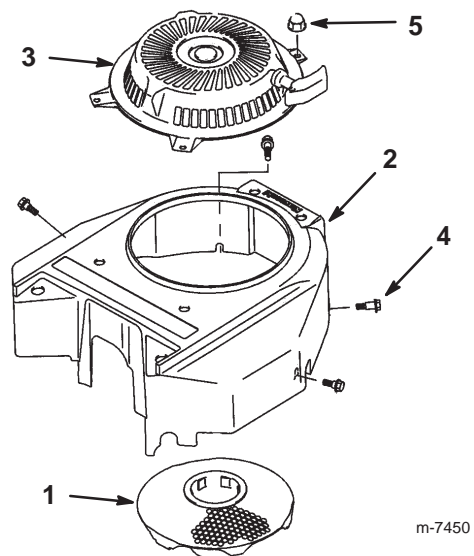

Figure 29
3. Remove the air intake screen, recoil starter, and fan housing (Fig. 29).